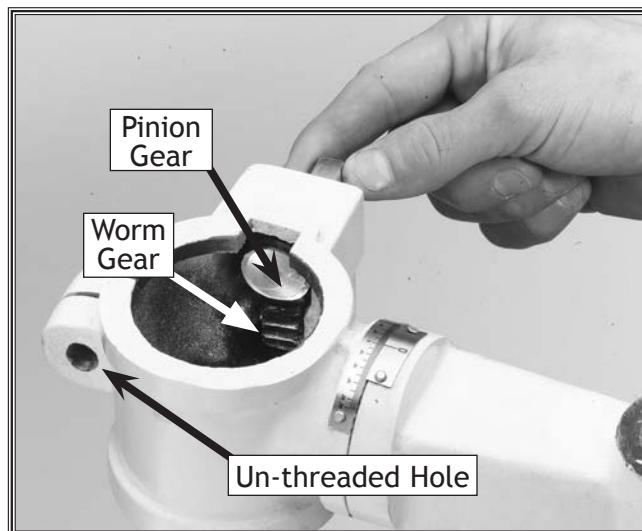

Figure 9. Pinion and worm gear installation.
1. Insert the table lock lever through the un-threaded hole (see **Figure 9**) in the table bracket, and then tighten the lever into the threaded side exactly three turns.
2. Starting with the pinion gear, insert the shaft into the table bracket and mesh the teeth with the worm gear as shown in **Figure 9**.